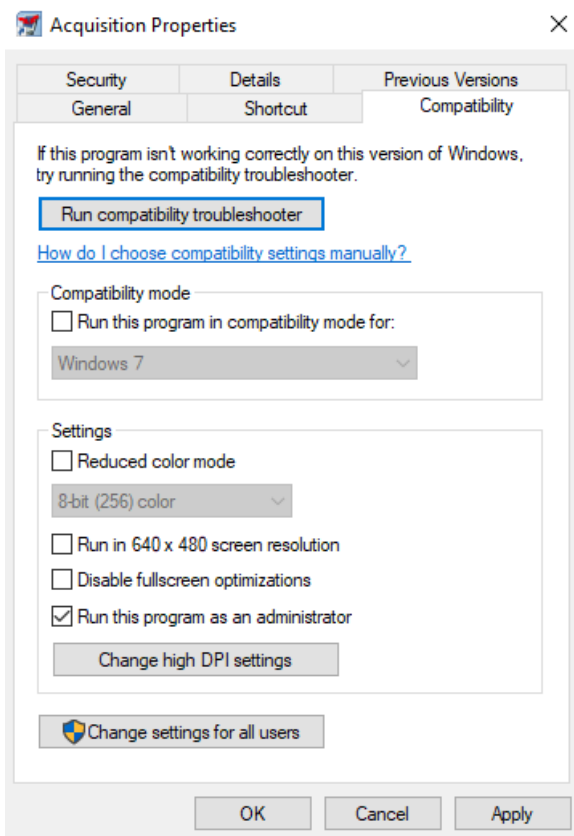

Figure 3-14. Acquisition properties - Compatibility tab
- a. Click the **Compatibility** tab, see Figure 3-14.